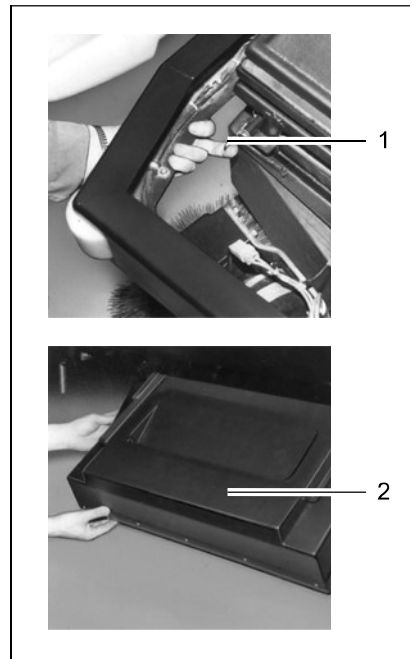

Fig. 36
1. When the front hood is closed, press the right and left locks (Fig. 36/1) of the dirt hopper (Fig. 36/2) up to release the lock. The dirt hopper pivots down.
2. Take hold of the dirt hopper (Fig. 36/2) in both hands using the grips located at the sides of the dirt hopper (Fig. 36/2).
3. Pull the dirt hopper (Fig. 36/2) to the front and out of the guide rails.
Empty the dirt hopper (Fig. 36/2) regularly at a suitable location.
1. Take hold of the dirt hopper (Fig. 36/2) in both hands using the grips located at the sides of the dirt hopper (Fig. 36/2).
2. Fit the dirt hopper (Fig. 36/2) in the guide rails, slide in as far as possible and press the dirt hopper (Fig. 36/2) upwards until the lock audibly latches into place.
If the dirt hopper (Fig. 36/2) is not properly engaged, the Indicator for dirt hopper and front flap of pre-sweep/vacuum unit lamp (Fig. 19/3) lights up. The pre-sweep/vacuum unit does not work.
The filter system of the dust vacuum (use category “U”) is located in the filter case above the dirt hopper (Fig. 36/2). The filter case is movable, the movement linked to that of the dirt hopper (Fig. 36/2) in order to be able to shake the filter element (panel air filter) when the agitating motor is switched on.